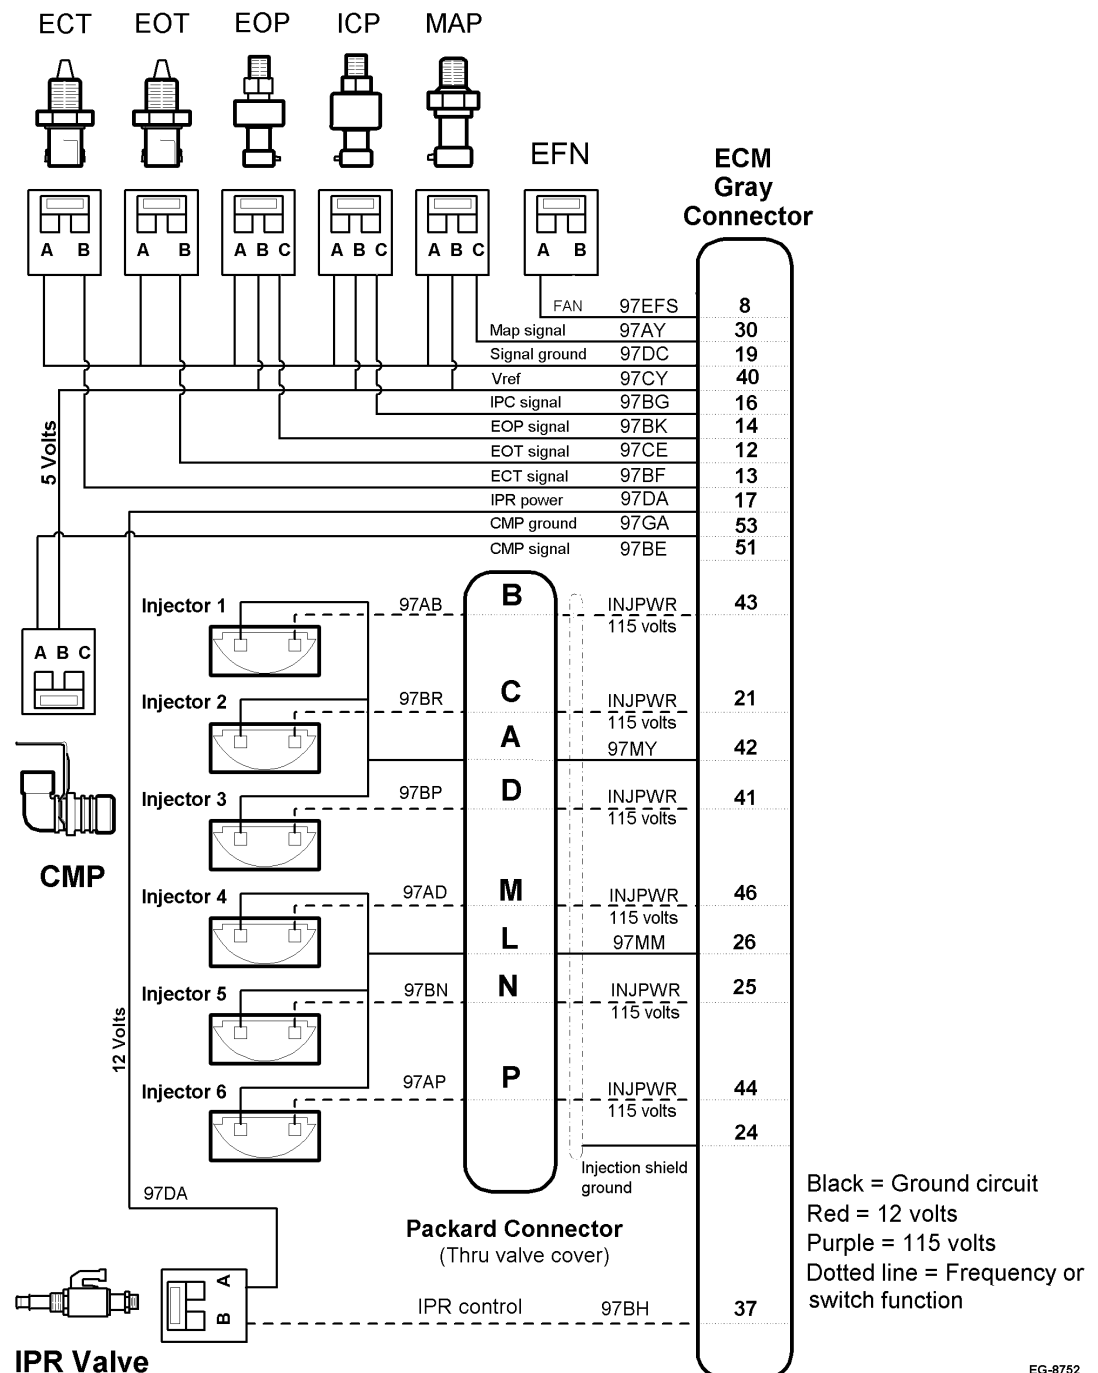

Figure 69 Engine Mounted Components
- The ECM engine sensor harness with sensors (See Figure 69, page 157).